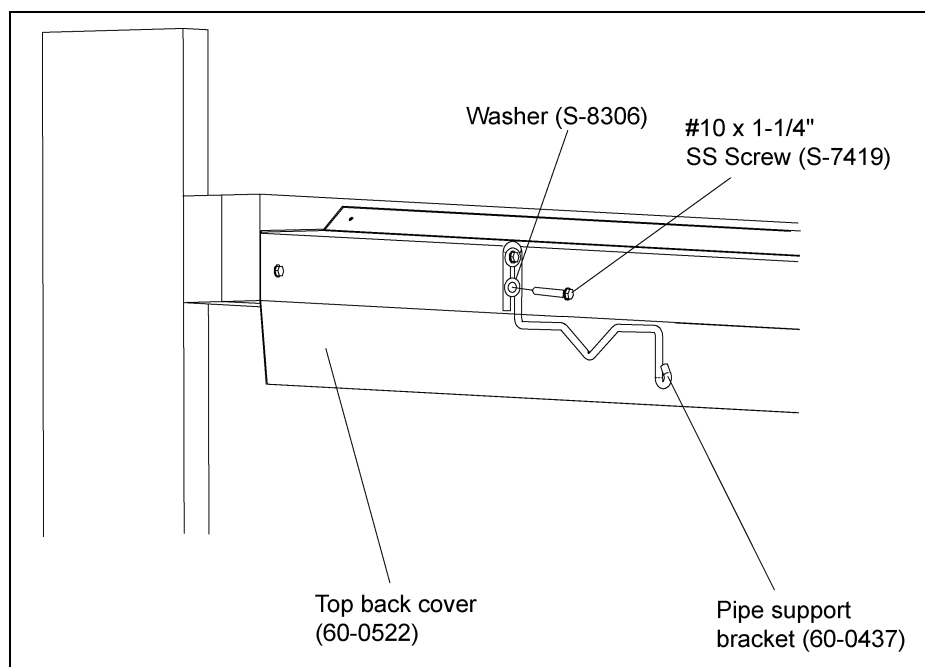

Figure 4L
Place pipe support brackets (60-0437) (2 per 10' section) inside top back cover aligning brackets to holes in top back cover. Use two (2) #10 x 1-1/4" SS screws (S-7419) and washers (S-8306) per bracket. (See Figure 4L.)